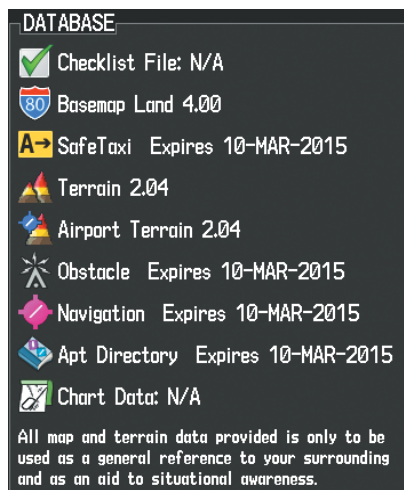

Figure B-7 Database Information on the Power-up Screen
- 4) Apply power to the system, check that the databases are initialized and displayed on the power-up screen (Figure B-7). When updating the terrain and FliteCharts databases, a ‘Verifying’ message may be seen. If this message is present, wait for the system to finish loading before proceeding to step 5.